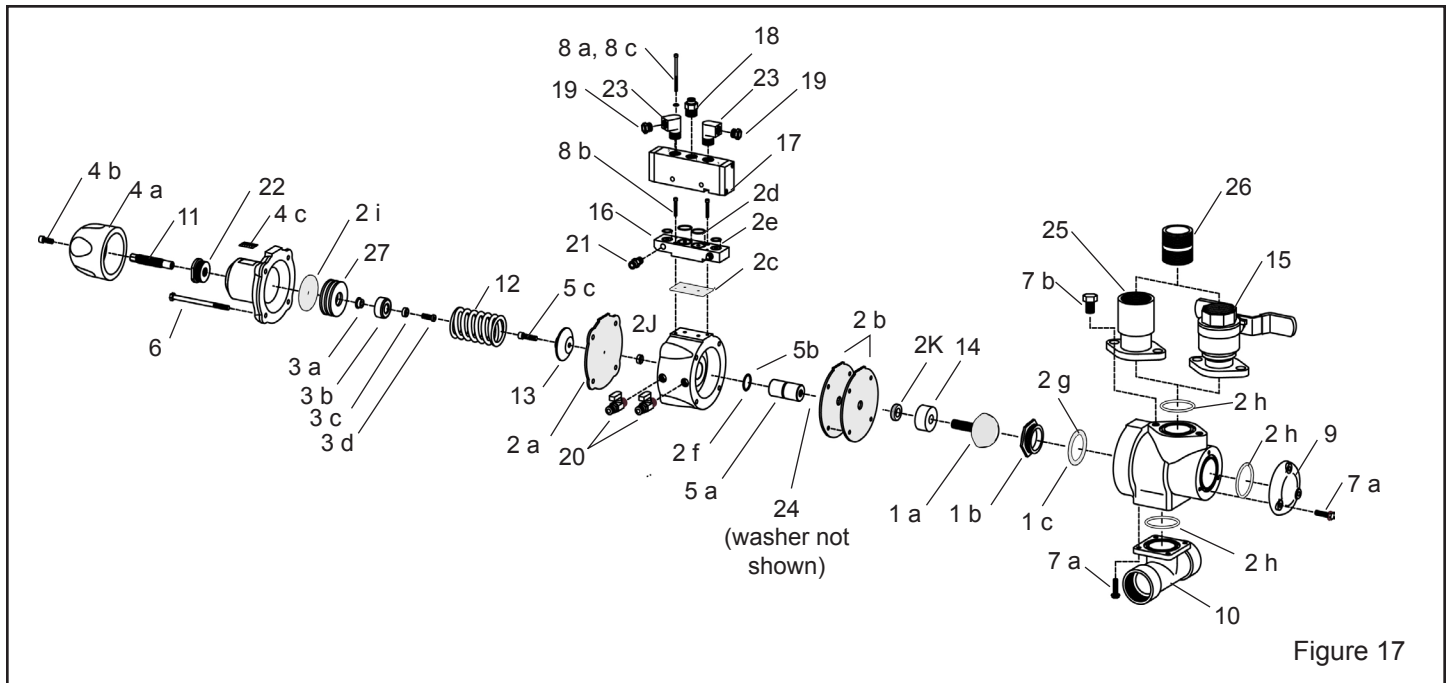

Figure 17
6.2 GritWizard Abrasive Metering Valve – Figure 17 Units are each unless otherwise noted